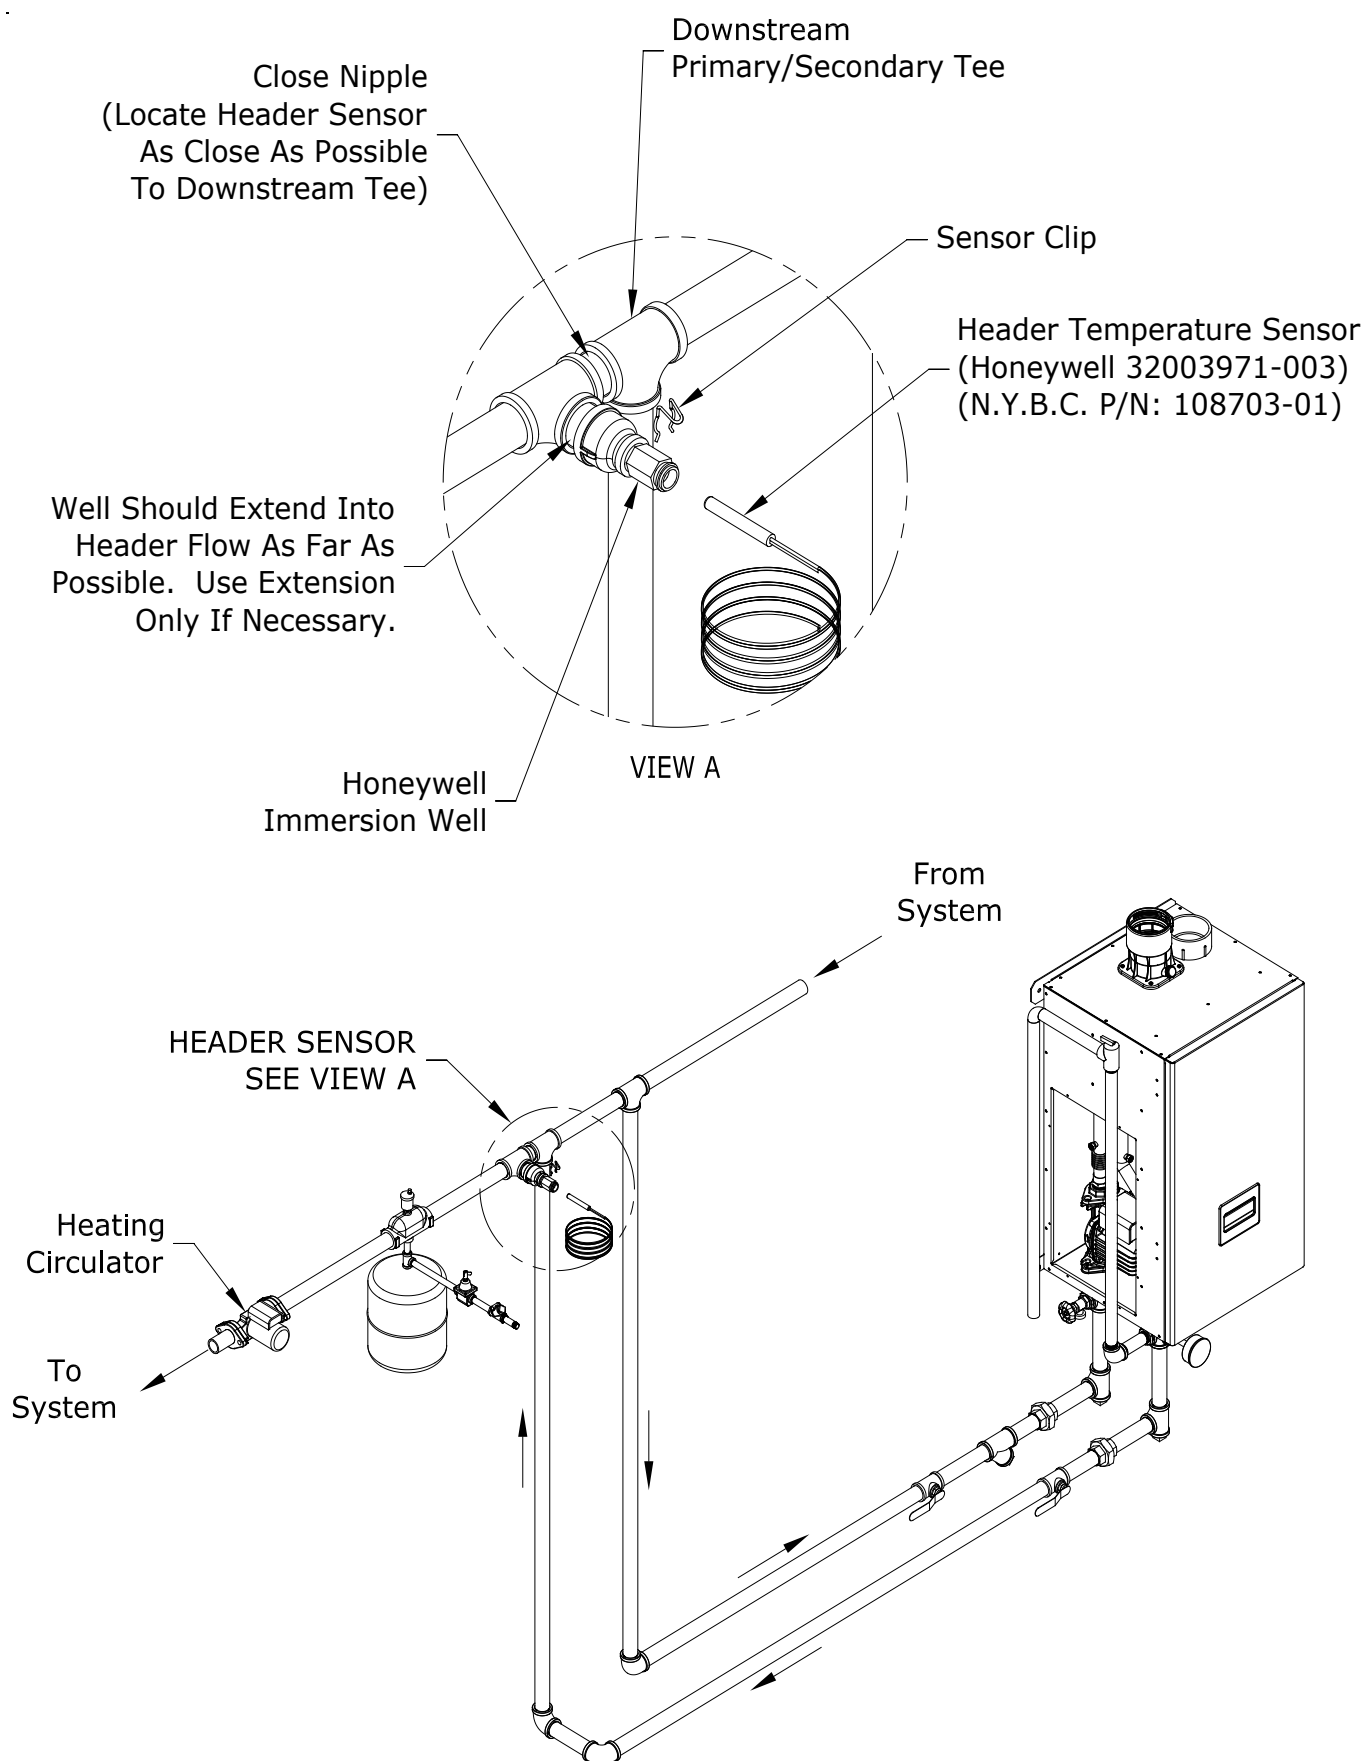

Figure 10.6: Proper Installation of Header Sensor
- e. Header Sensor - When this sensor is installed and enabled, the boiler will attempt to maintain the target water temperature in the header rather than in the supply. Where the system flow rate varies widely, the use of a header sensor allows the temperature of the water being sent to the radiation to be more accurately controlled. Use only the Honeywell 32003971-003 (103104-01) sensor listed above. Locate this sensor immediately downstream of the second primary-secondary Tee (Figure 10.6). Installation of this sensor in a well, as opposed to on the surface of the header, is highly recommended. The sensor wiring should be routed away from sources of electrical noise. Where it is impossible to avoid such noise sources, wire the sensor using a 2 conductor, UL Type CM, AWM Style 2092, 300Volt 60°C shielded cable. Connect one end of the shielding on this cable to ground. See Section XII for information on enabling the header sensor.